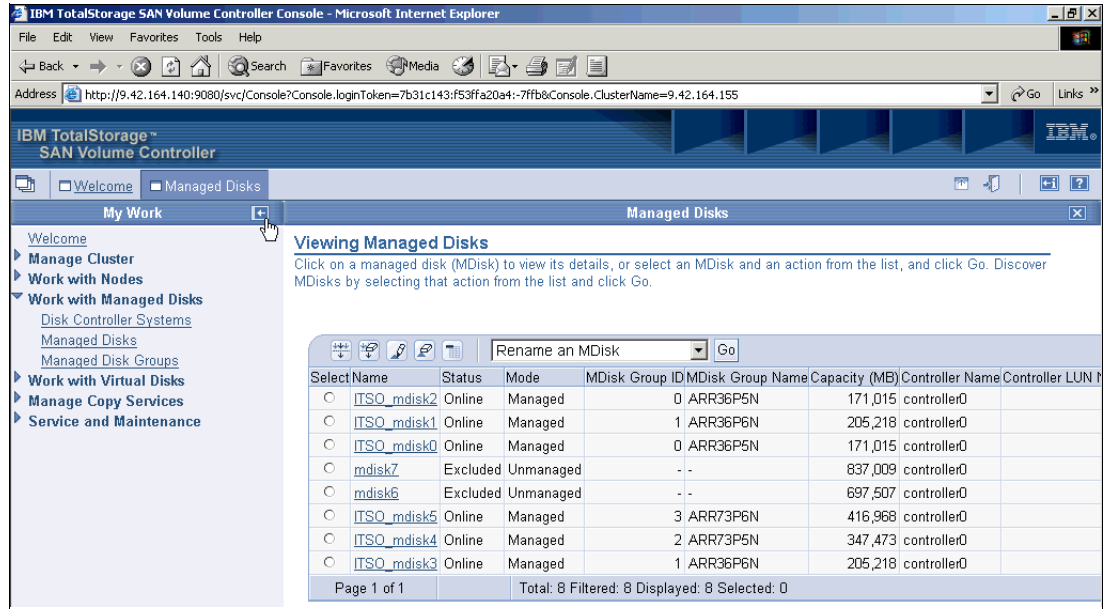

Figure 9-29 Viewing Managed Disks panel
This section details the tasks which can be performed on an mDisk level. You perform each of the following tasks from the Managed Disks panel (Figure 9-29). To access this panel, from the SVC Welcome page, click the **Work with Managed Disks** option and then the **Managed Disks** link.
**Tip:** If at any time, the content in the right side of frame is “cut off”, you can minimize the My Work column by clicking the arrow to the right of the My Work heading at the top right of column (highlighted with mouse pointer in Figure 9-29).